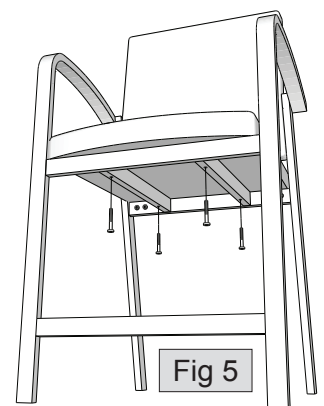

Fig 5
7. Attach seat cushion to H-frame using 2 $\frac{3}{8}$ " Allen bolts, as shown in figure 5. Once all 4 bolts are started, tighten all securely.